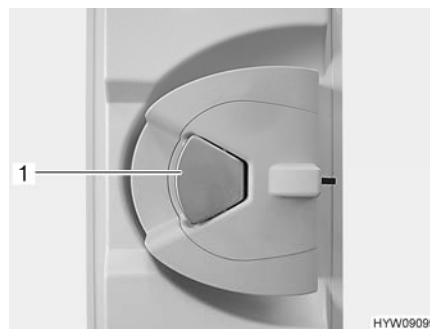

Fig. 54 Door lock (conversion door, inside)
- Opening:** ■ When the door lock is locked: Pull once at the door handle (Fig. 54,1). The door is unlocked.
- Pull on the door handle (Fig. 54,1). The door is open.
- Locking:** ■ Push the door handle (Fig. 54,1).